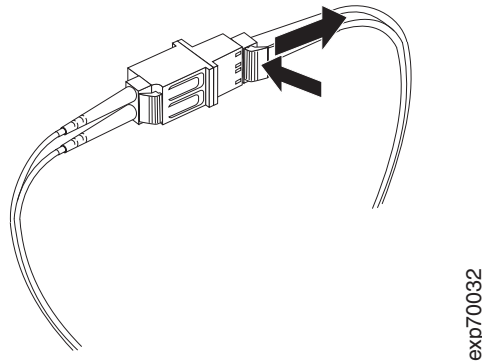

Figure 34. Removing the LC-LC fibre channel cable from an LC-SC fibre channel cable adapter
2. Carefully pull on the connector to remove it. Make sure you grasp the connector and not the cable when removing the LC-LC cable from the LC-SC cable adapter as shown in Figure 34.